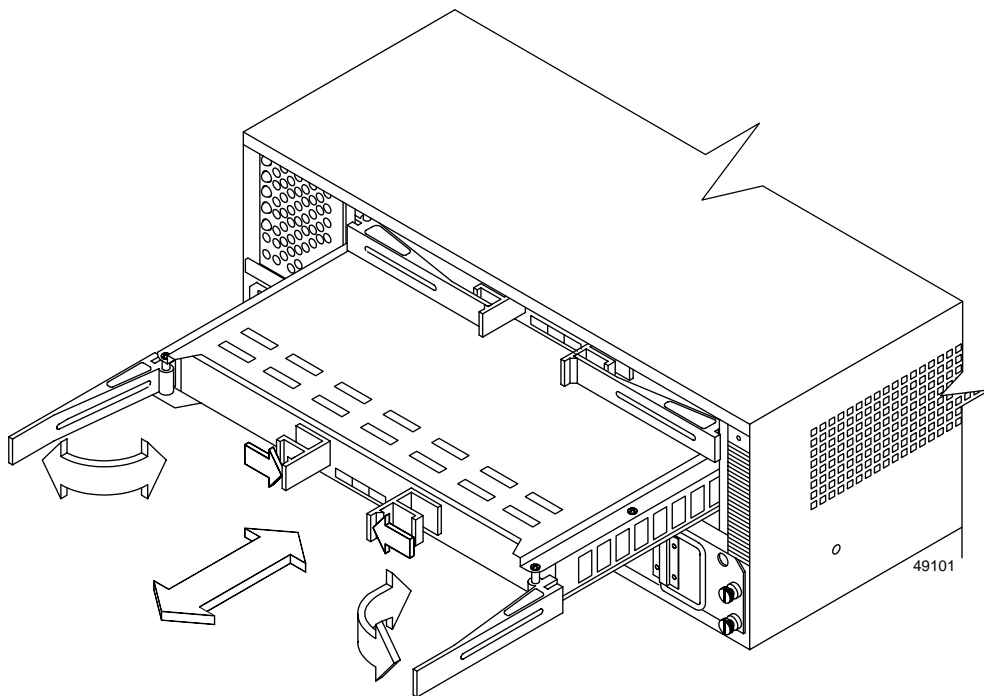

Figure 4-2 Removing and Installing a Controller Canister
4. Remove the failed controller by squeezing the two center tabs, opening the handles, and sliding the canister out of the enclosure. Close the handles (see Figure 4-2).